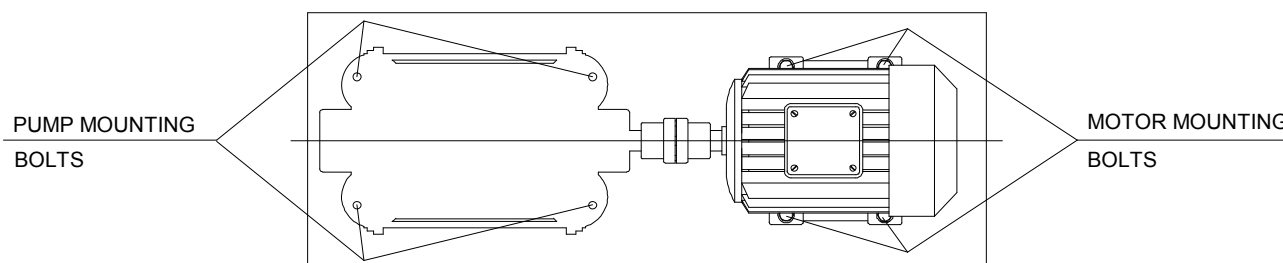

Fig. 11
- 8 - Place the electric motor on the baseplate and bring the two coupling halves together with approx. 2 mm gap between them keeping the motor axially aligned with the pump shaft. In the event the two shaft heights do not align, proper shimming under the pump or motor feet will be required. Mark the motor and/or pump anchoring bolt holes. Remove motor and/or pump, drill and tap the holes, clean and mount pump and/or motor in place and lightly tighten the bolts (see fig. 11).